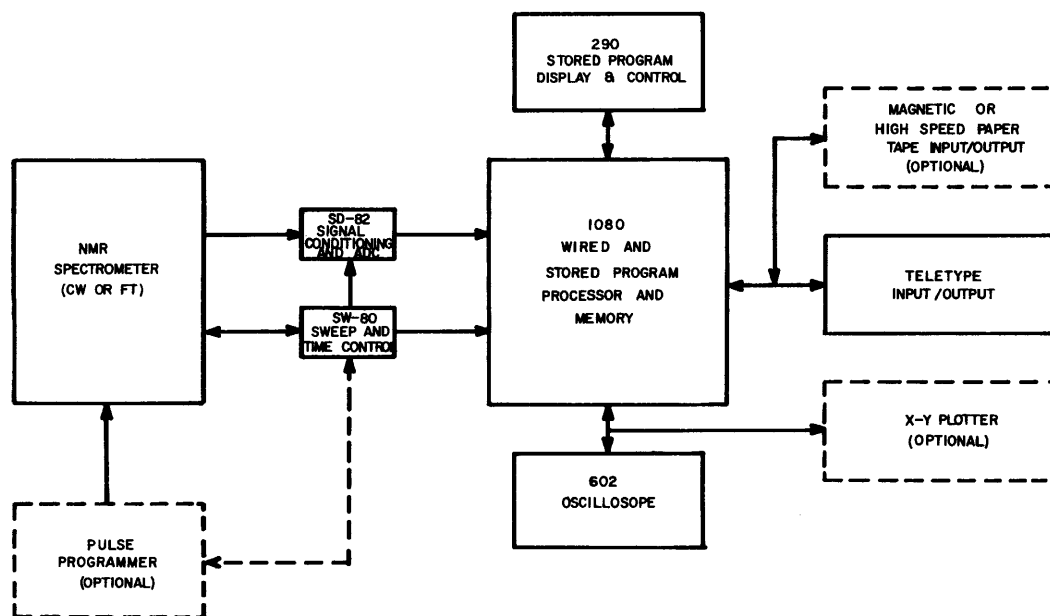

Figure 1. Components of a 1080 NMR Data System.
Acquiring free induction decay (FID) or continuous wave (CW) data from an nmr spectrometer with the 1080 system can be likened to the operation of an oscilloscope. Figure 1 shows the flow of information to and from the spectrometer to the various components of the 1080 system. The analytical (FID or CW) signal is fed to the input of the analog-to-digital converter (SD-82) for pre-conditioning and conversion to a discrete number of levels, a form that the 1080 wired program processor can readily assimilate into its magnetic core memory. All of the necessary timing controls which establish the start time (trigger) of the sweep, sweep width or sweep rate are found on the sweep control unit (SW-80).